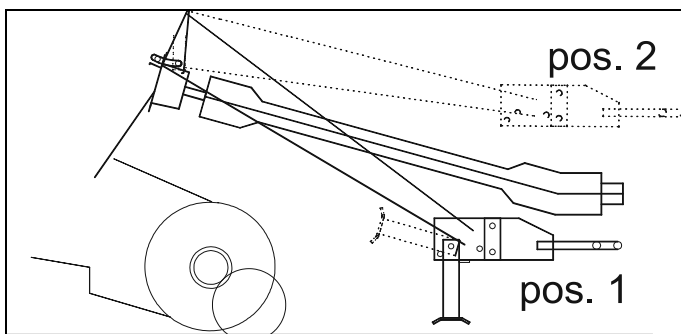

Fig. 1
*Mount the drawbar (pos. 1 or pos. 2 in figure 1) to make it suitable for the tractor concerned. Please make sure the length of the PTO shaft is within the min/ max length required during operation.*